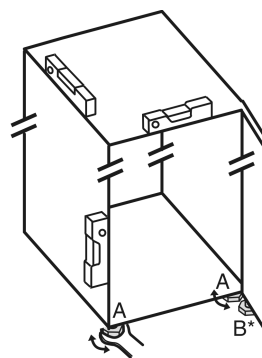

Fig. 5
- Unscrew the adjustable feet *Fig. 5 (A)* using the enclosed open-end spanner and a spirit level until the appliance is firmly aligned and level.
- Unscrew the adjustable foot *Fig. 5 (B)* on the swap bearing block with the enclosed open-end spanner until it rests on the floor.
- Turn the adjustable foot *Fig. 5 (B)* 90° further.